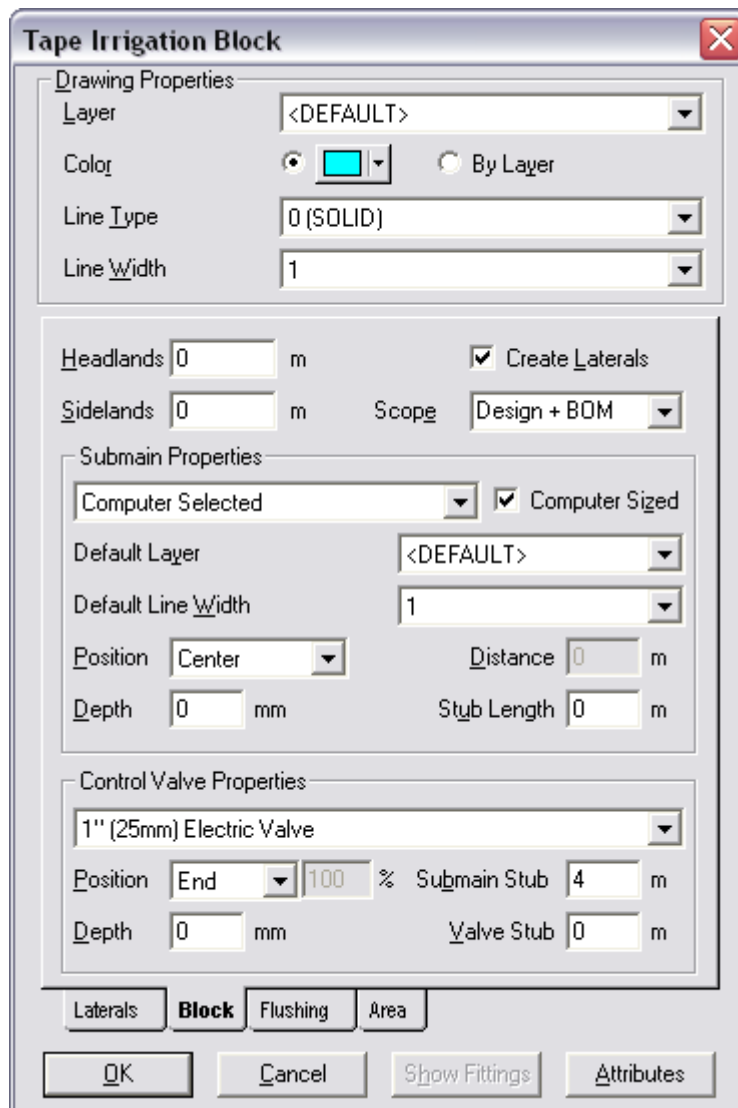

Figure AD 2
10. Now click on the **Block** tab. Here we can choose to have our submain and valve drawn automatically if required. In the “Submain” area of the dialog box set **Centre** as the “Position” but leave as “Computer Selected”. In the “Valve” area of the dialog box set the “Position” to **End** and specify the valve as the **1” (25mm) Electric Valve** (Figure AD 2) and set the “Submain Stub” to 4m. Click [OK].